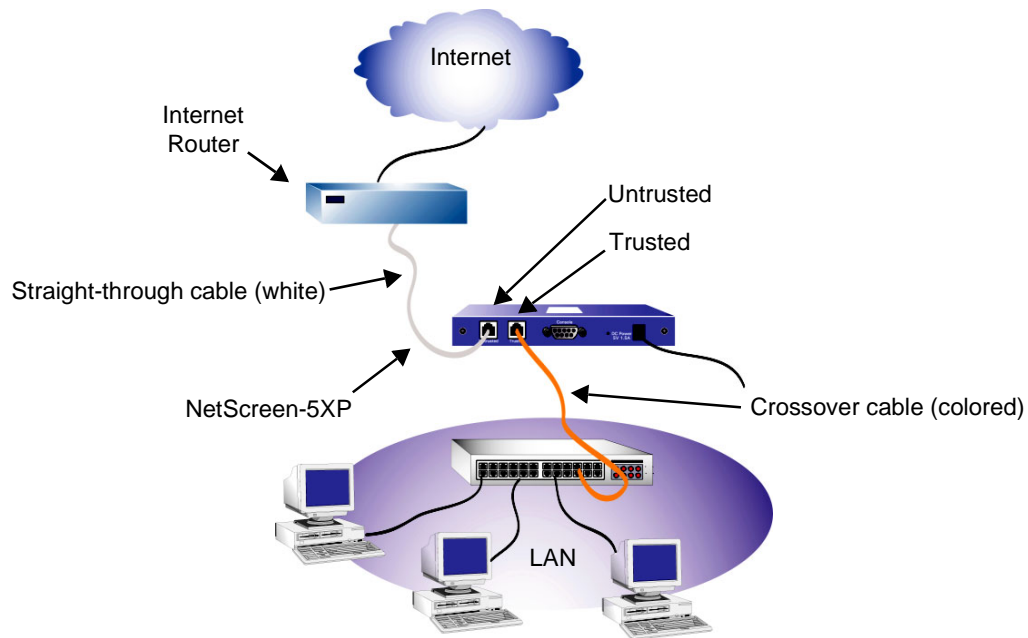

Figure 2-1 Typical Multiple-Workstation Configuration—Router Connected to the Untrusted Port, LAN Connected to the Trusted Port
- [Figure 2-1 “Typical Multiple-Workstation Configuration—Router Connected to the Untrusted Port, LAN Connected to the Trusted Port” on page 2-2.](#)